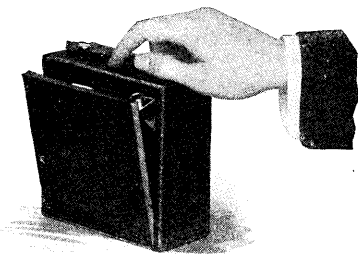

FIG. 1
1. Press the concealed button as shown in Fig. 1, and push down the bed of camera to the limit of motion.